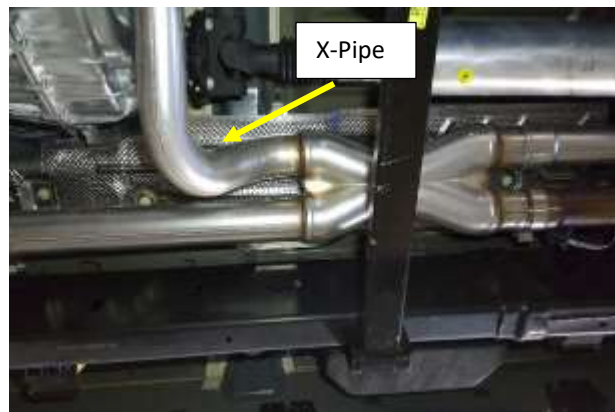

Figure 6
8. Remove the X-pipe assembly. **Fig.6.** *Take care not to damage the gaskets (they will be reused later).